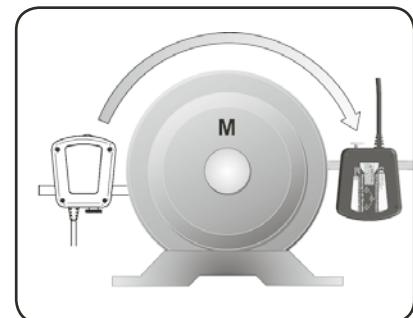

Fig. 18. Rotate to the 3 o'clock position
- Follow the circle symbol on the display and rotate the measuring units to the 3 o'clock position (fig. 18).